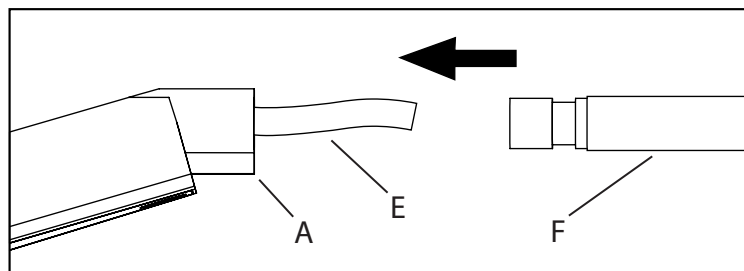
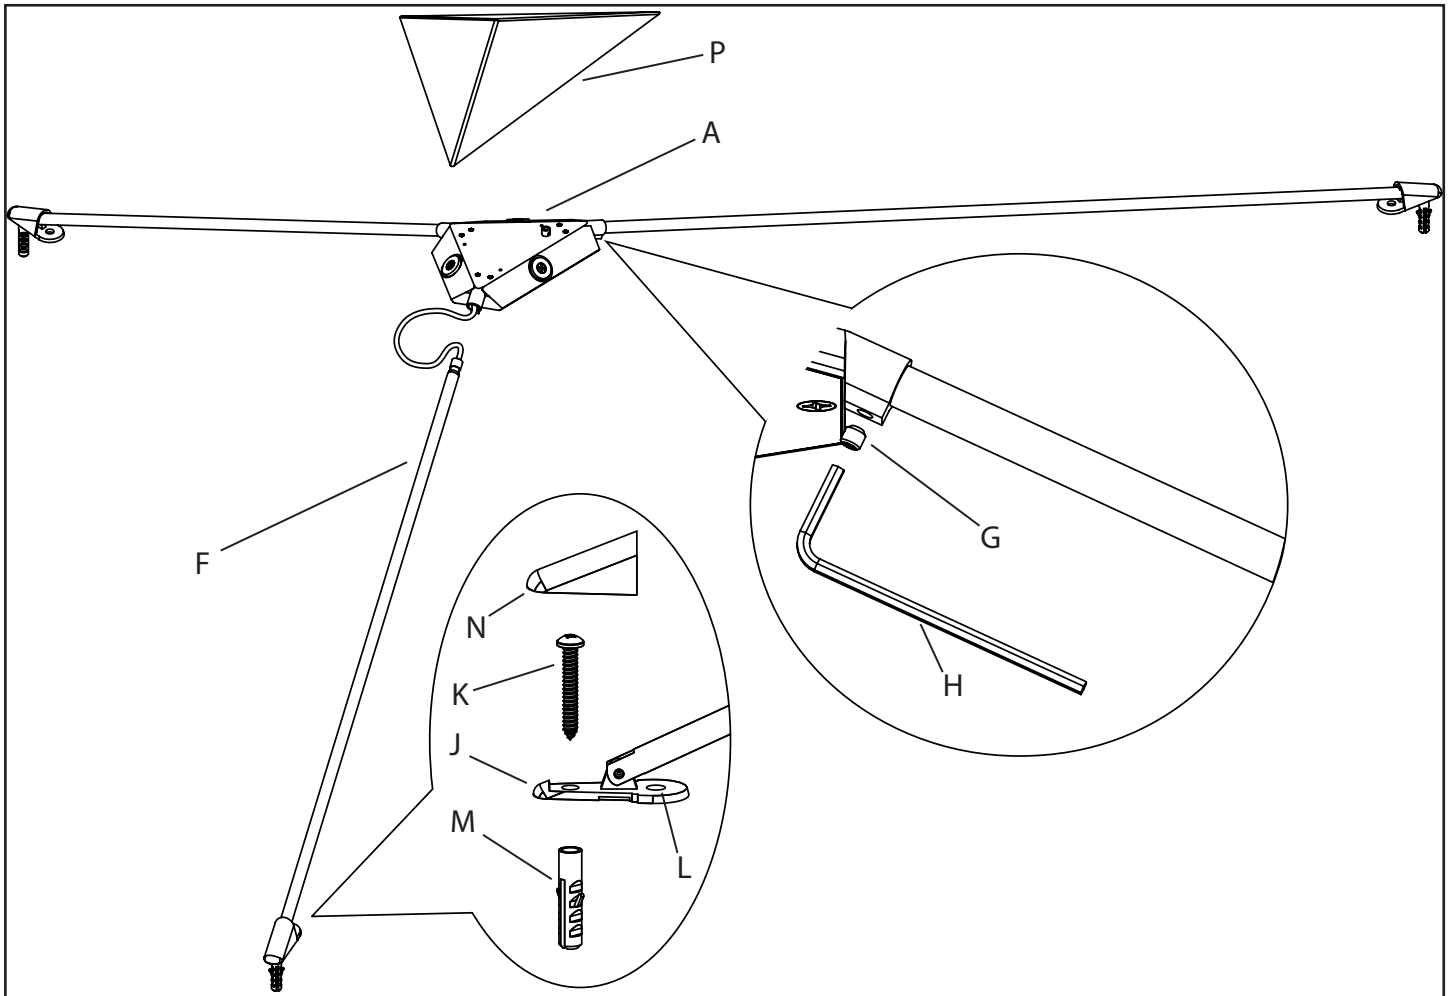

Fig. 2
Fig. 3
3. Insert each arm (F) into the fixture (A) in accordance to Fig. 2, and tighten set screw (G) with the provided allen key (H) (Fig. 3).